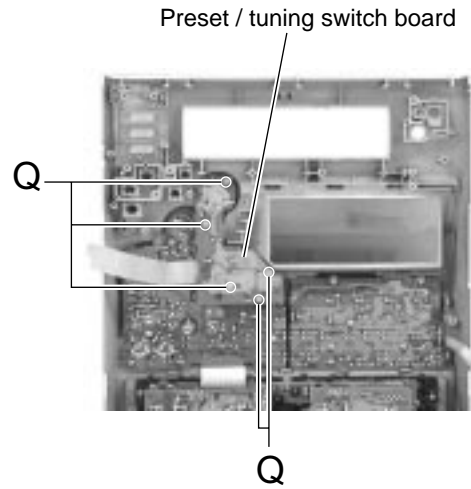

Fig.29
**■ Removing the preset / tuning switch board (See Fig.29 and 30)**